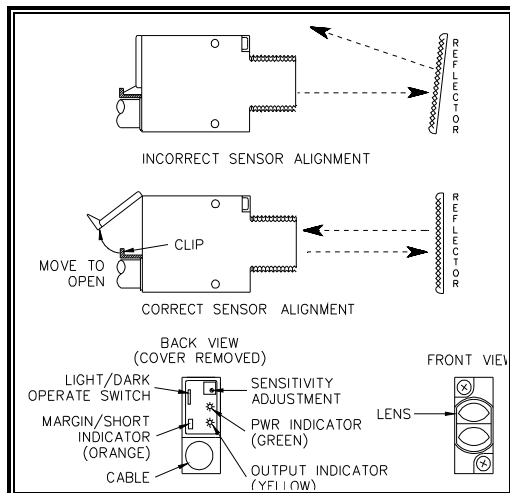

Figure 45 Allen Bradley
3. The rear cover window on the detector must be opened before any adjustments can be made. See Figure 45. Press the flexible retaining clip against the cable to open the window.